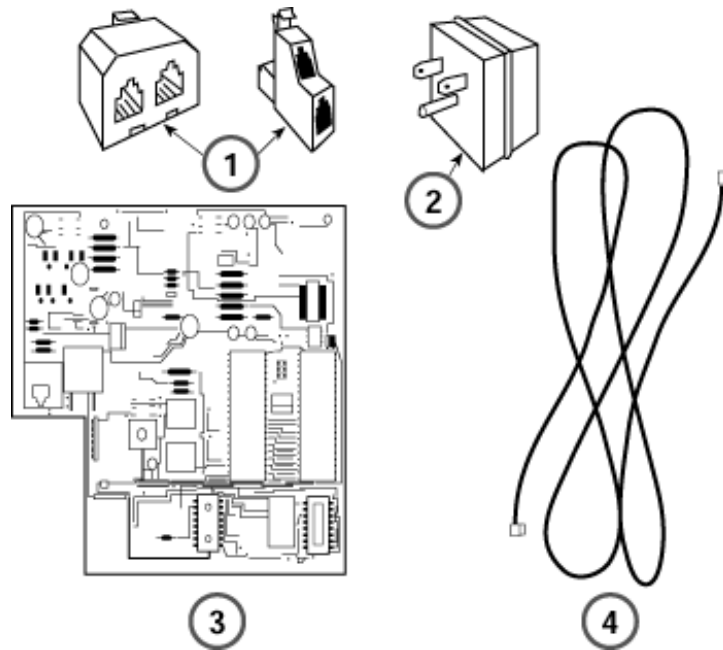

Figure 3-28. Multi-Function Module Packing List
- The MFM has two jumper blocks that are factory-set for T/R operation. The MFM is packaged with the following items, shown in Figure 3-28: